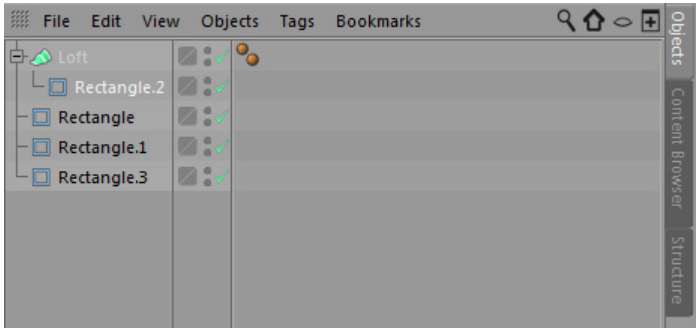

Figure 2-40 *Rectangle.2 connected to Loft in the Object Manager*
15. In the Object Manager, select *Rectangle.2*. Next, drag and drop *Rectangle.2* on *Loft*; *Rectangle.2* is connected to *Loft*, as shown in Figure 2-40. Also, *Rectangle.2* is lofted with a surface in the Perspective viewport.